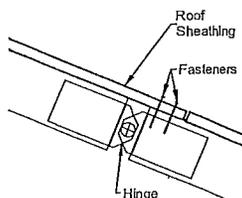

Figure 24. Sheathing at hinge line
7. **Fasten sheathing.** Fasten sheathing from the upper portion of the roof to the lower fixed portion of the roof just below hinges with two (2) 15ga staples or 8d nails at each truss (**Figure 24**) or, if wood blocking is present, at six inches o.c. along blocking.